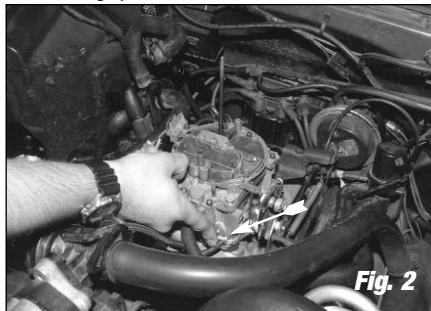

Fig. 2
1. **Determine if the distributor vacuum port is timed (no vacuum at idle) or full (vacuum present at idle).** With the engine fully warmed up and idling, pull the vacuum hose off of the carb and "feel" for vacuum by putting your finger on the vacuum port (**See Fig. 2**). If your distributor has timed vacuum advance, hook the vacuum hose from the distributor up to the passenger side vacuum port on the carburetor. If it has full vacuum advance, hook it up to the driver's side port.